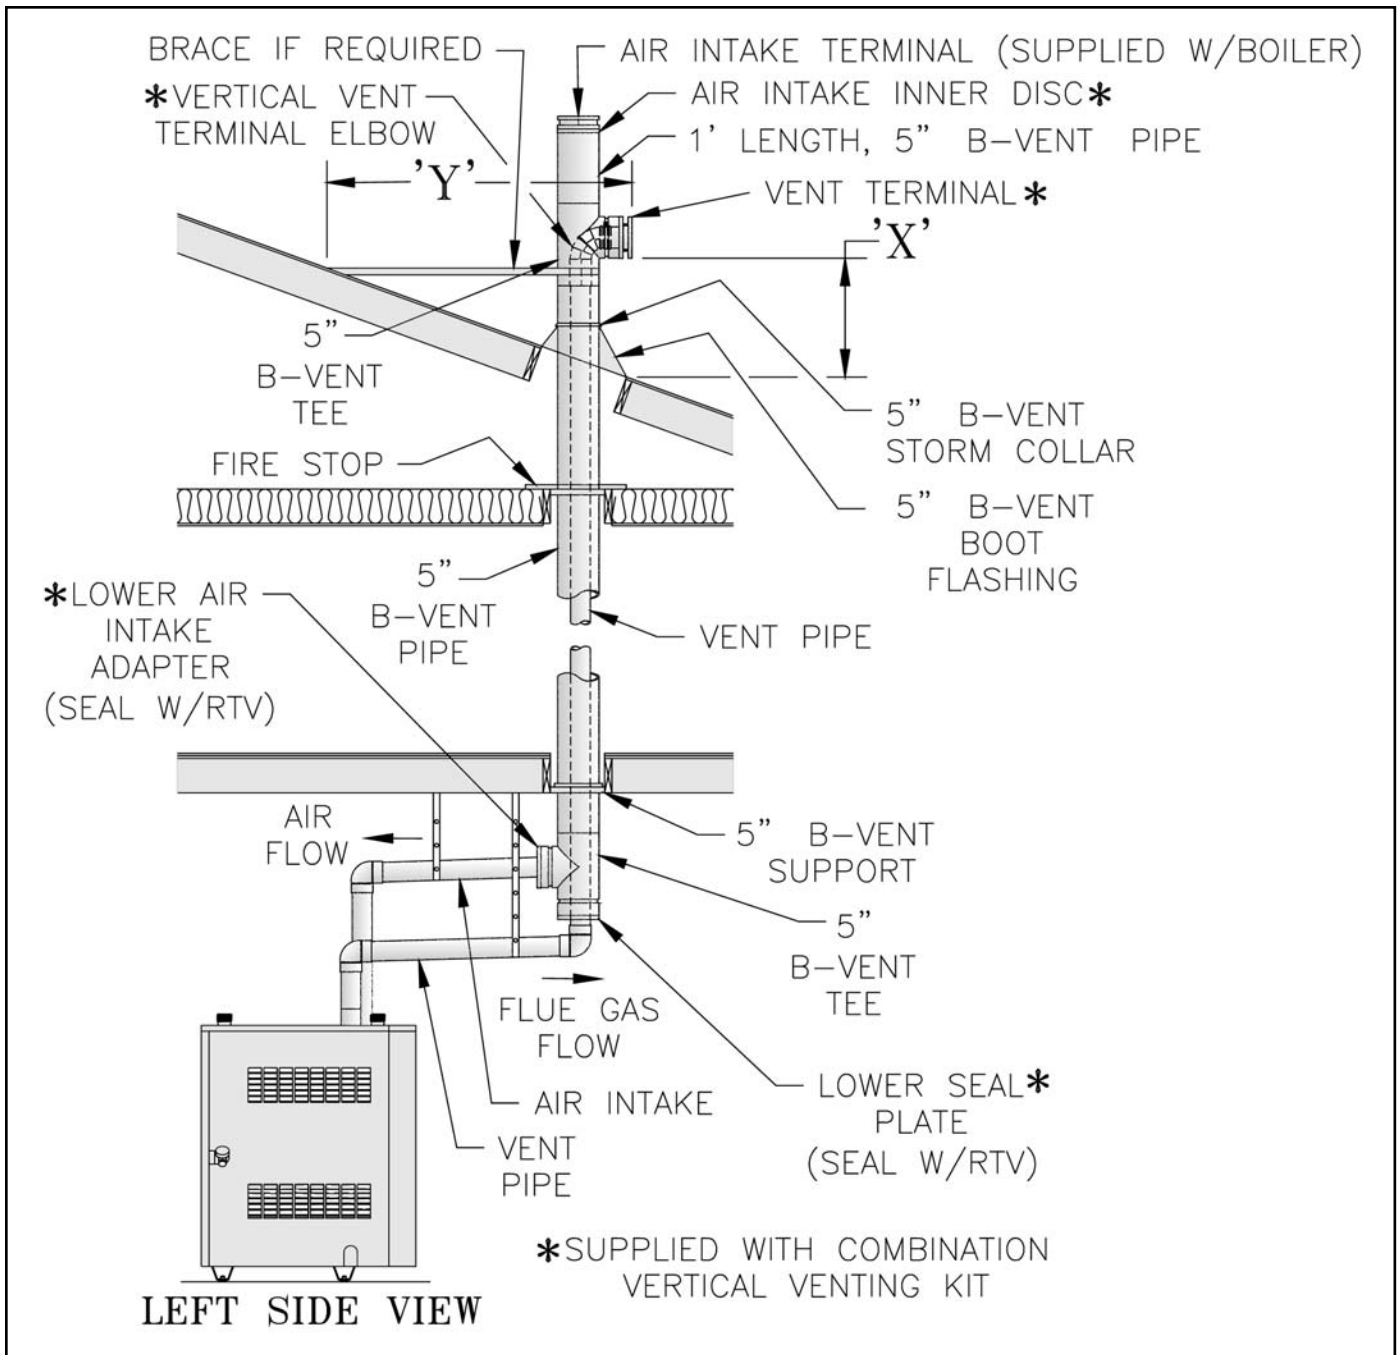
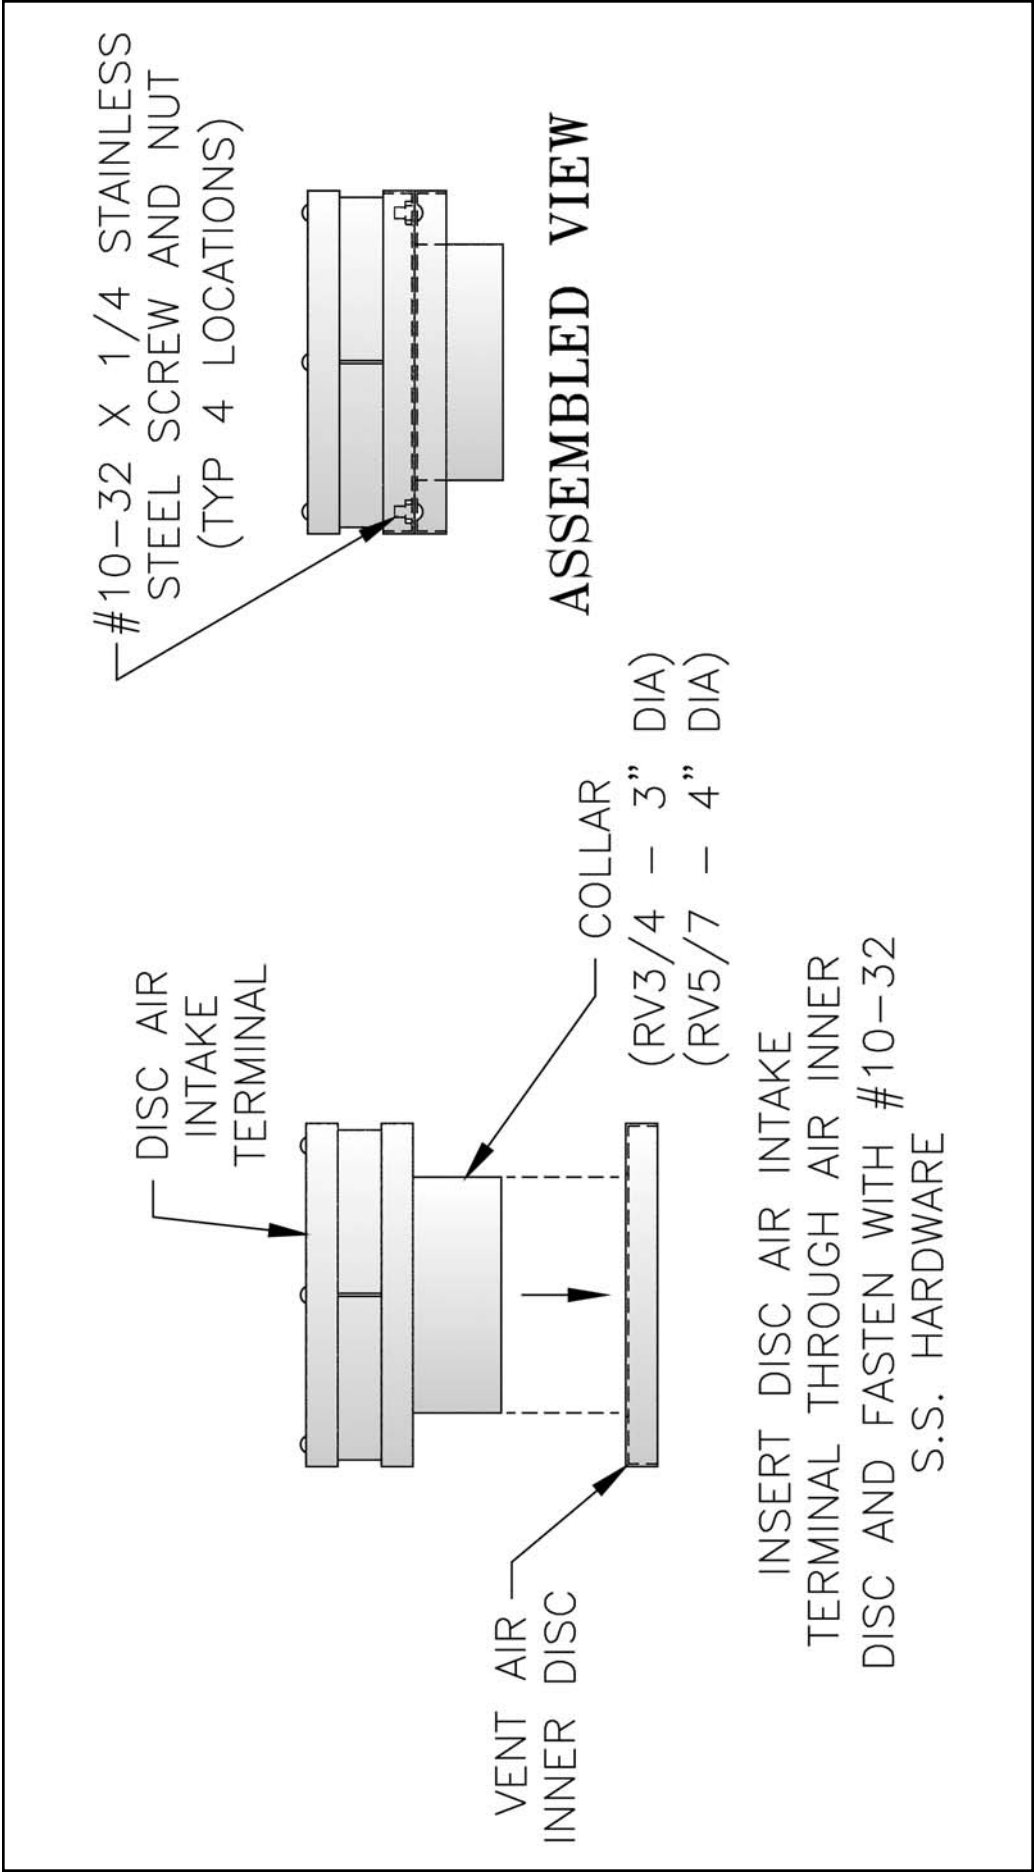

Figure 12: Combination Vertical – Vent/Air Installation
Figure 13: Combination Vertical – Air Intake Terminal Assembly
I. Combination Vertical Venting System – See Figures 12, 13 and 14.
NOTE: Roof penetration must allow enough pipe to extend above roof surface to maintain minimum vertical ("X") and minimum horizontal ("Y") distance of twelve (12) inches from roof surface when B-Vent tee is installed. Allow additional vertical ("X") distance for expected snow accumulation. See Figure 12.
5. Install vertical lower seal plate to bottom leg of B-vent tee. See Figure 12.
6. From top of B-vent vertical run, install three (3) inch AL 29-4C® vent pipe. Refer to Sections C through E for proper procedures for joining vent pipe and fittings.
NOTE: Position horizontal leg of B-vent tee in direction opposite pitch of roof. See Figure 12.
11. Install one (1) foot B-vent pipe into top leg of B-vent tee. Seal per B-vent manufacturer's instructions.
12. Install disc air intake terminal (supplied with boiler) to one (1) foot B-vent pipe.
- a. Insert collar of disc air intake terminal into air intake inner disc. Secure disc air intake terminal to inner disc using four (4) 10 - 32 x ¼ inch stainless steel machine screws and stainless steel nuts provided. See Figure 13.
- b. Install inner disc/air intake terminal assembly onto top of one (1) foot B-vent pipe. Secure inner disc to B-vent pipe and seal with RTV.
14. Connect boiler vent connector to vertical vent pipe run. See Figure 12.
- d. Use non-combustible 3/4 inch pipe strap to support horizontal runs and maintain vent location and slope. Maximum support spacing is five (5) feet.
15. Install air intake piping. See Figure 12.
- f. The air intake pipe must be adequately supported with straps or supports no less than five (5) feet apart on horizontal runs. The complete air intake piping system must be rigid and able to withstand minor impacts without collapse.
- g. Connect air intake piping to air intake adapter. See Figure 12.
- NOTE: When installing three (3) inch diameter air intake piping for a RV3 or RV4 application, the use of a 3 inch x 4 inch increaser will be required to connect air intake piping to air intake adapter. (Increaser included with combination vertical venting kit).